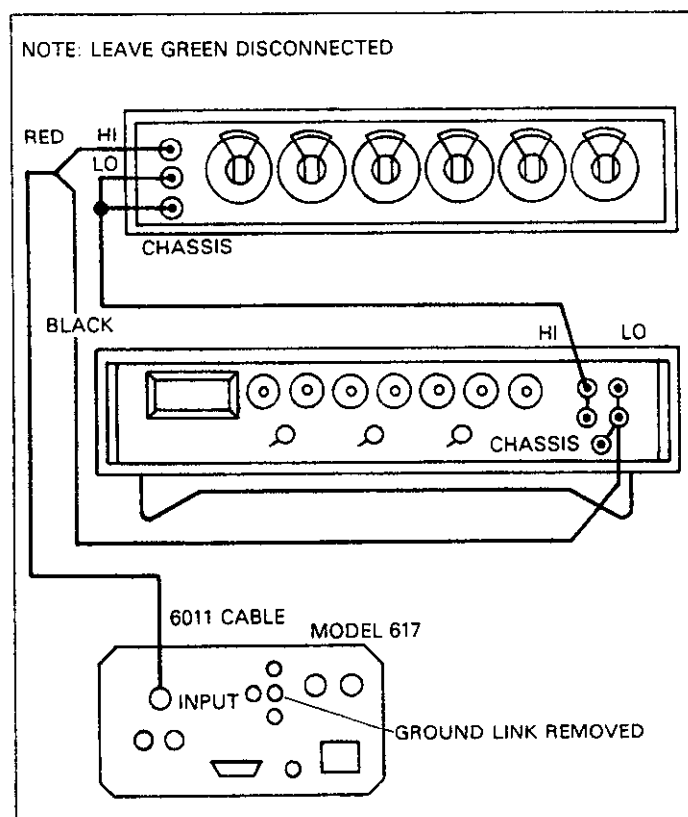

Figure 7-5. Connections For Amps Calibration (20nA, 20 μ A and 20mA Ranges)
8. Disconnect the resistor/shield fixture from the instrument and connect the decade resistance box in its place, as shown in Figure 7-5.